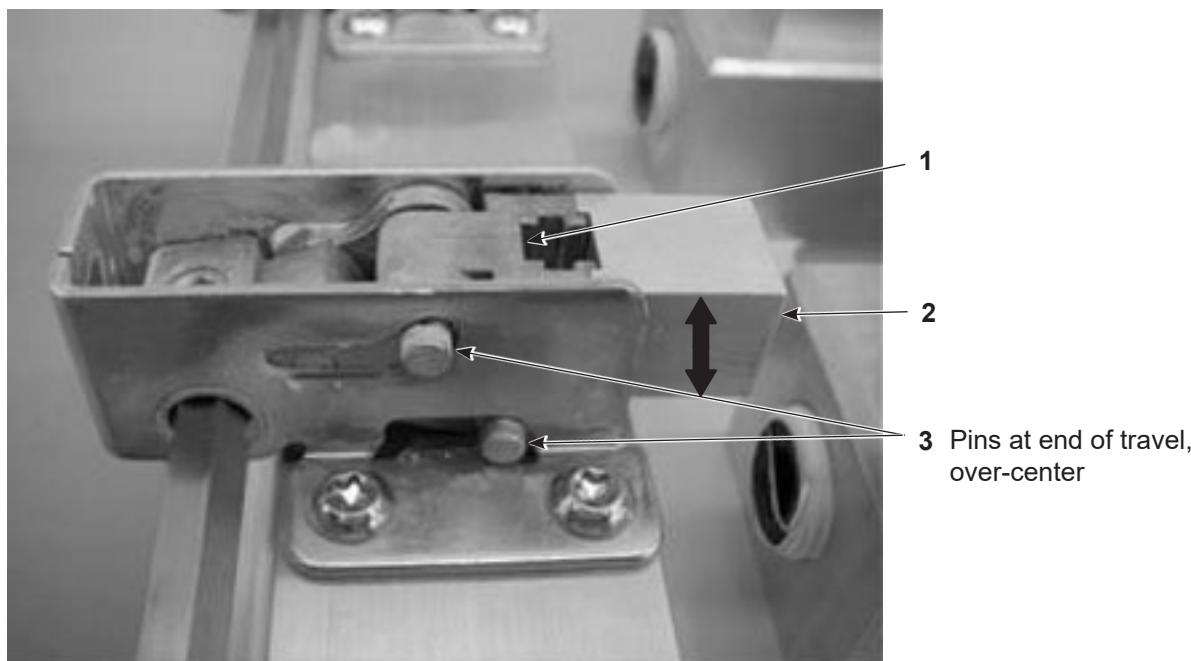

Figure 8-5 Pawl Adjustment – Latch Shown Over-Center
Figure 8-5 shows a latch extended until it is over-center. The latch pawl (2) is normally installed with the top surface flush with the top surface of the pawl mount (1). With the lance clamped down, the latch should not go over-center (fully extended). The latch pins (3) should not be up against the ends of their slots.